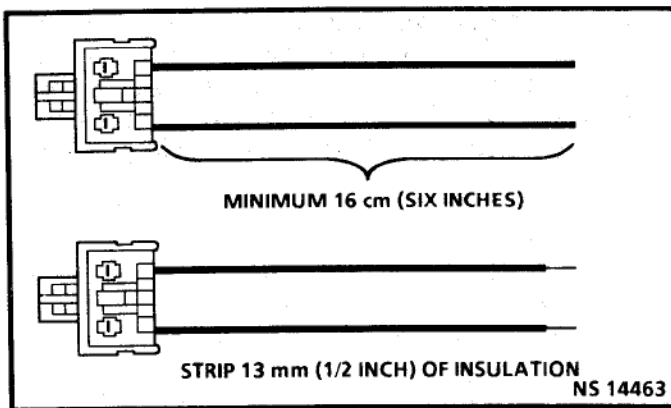

Figure 28 - Cutting the Harness Connector Wires
14. Cut the passenger inflator module harness connector from the vehicle leaving at least 16 cm (six inches) of wire at the connector (Figure 28).
15. Strip 13 mm (1/2 inch) of insulation from each wire lead of the connector (Figure 28).